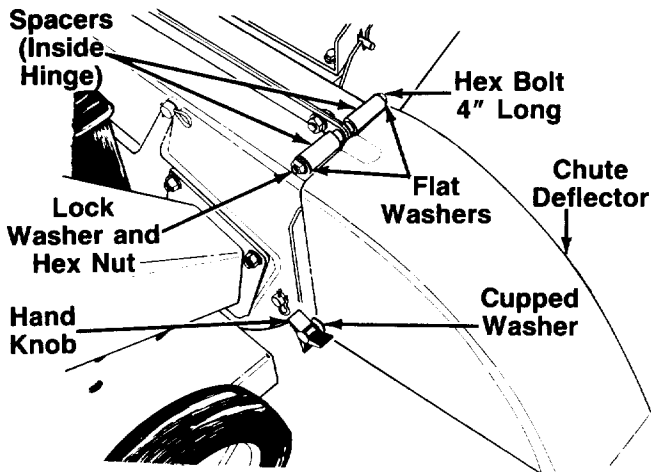

FIGURE 2.
- Insert hex bolt through hinge on chute deflector and housing (spacer fits inside of hinge). See figure 2.